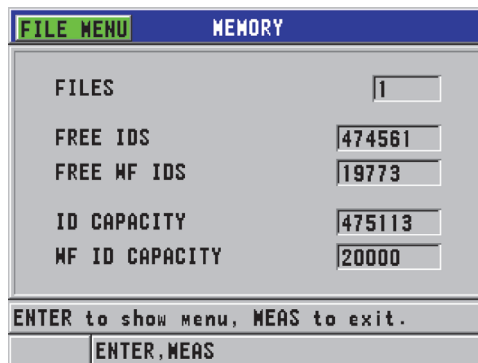

Figure 6-34 The MEMORY status screen
1. Press **[FILE]**, select **MEMORY**, and then press **[ENTER]** to display the **MEMORY** status screen (see Figure 6-34 on page 124). This screen indicates the number of files stored in the internal memory, along with its current capacity.